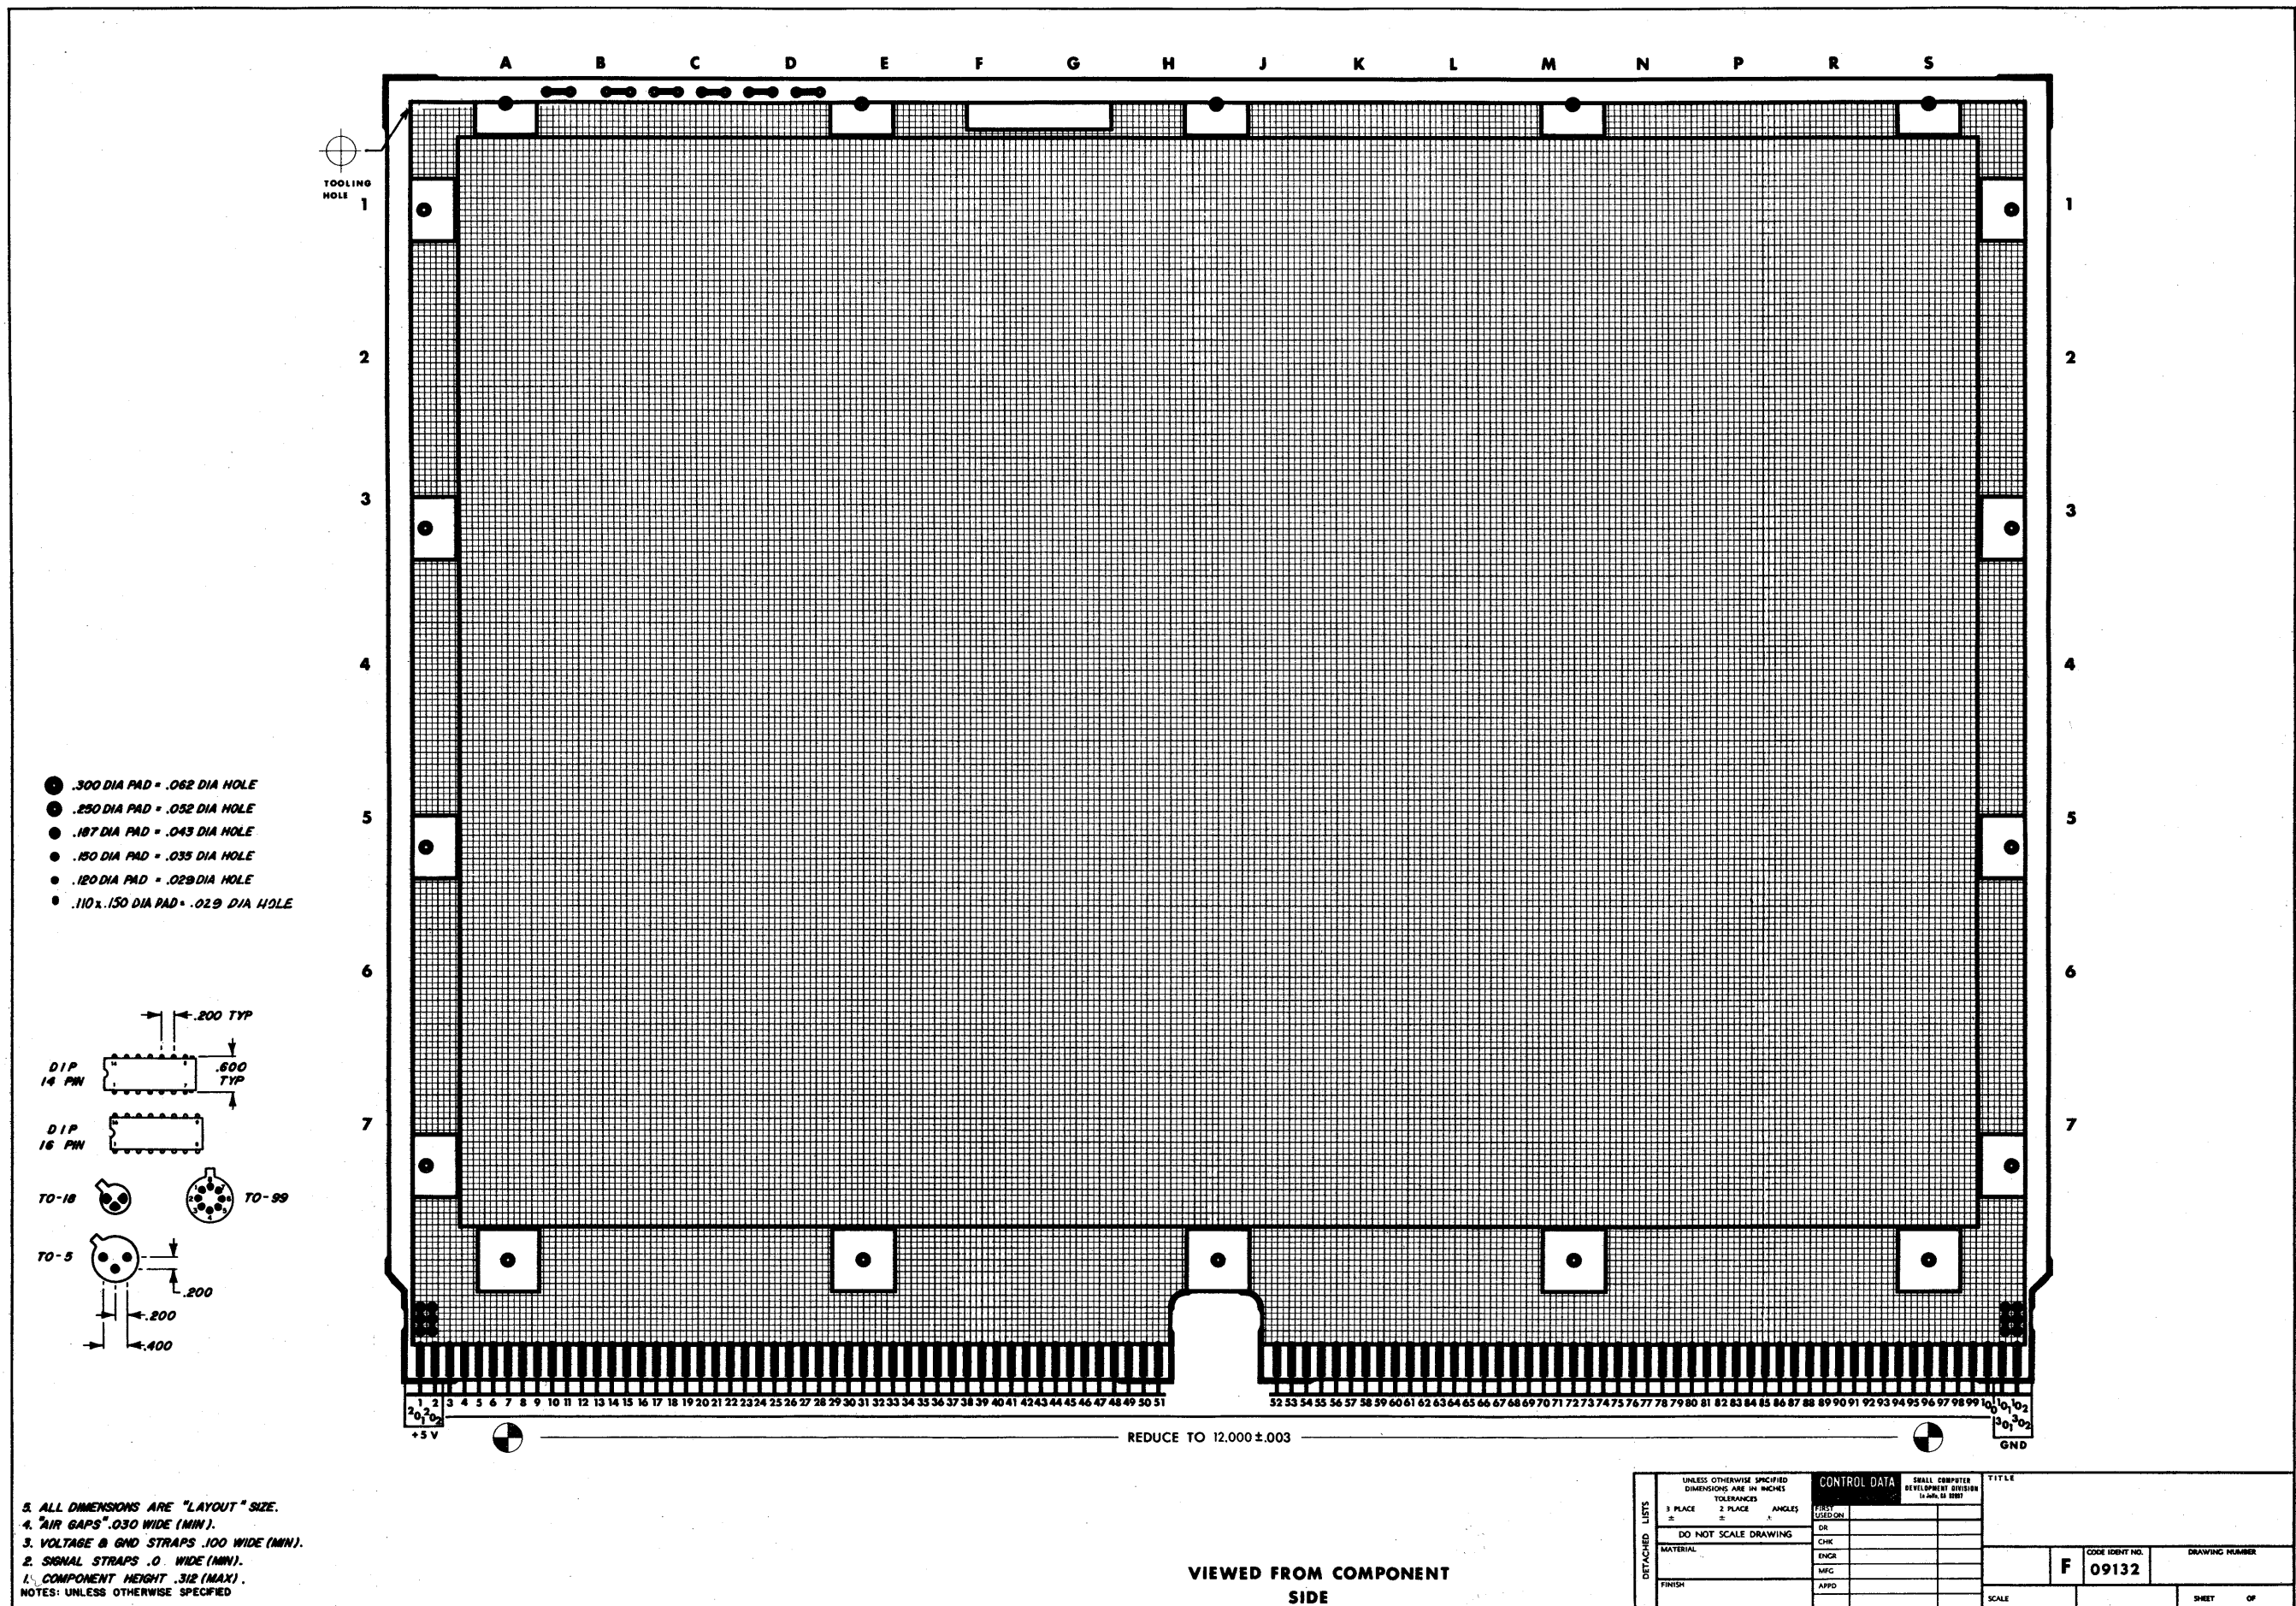

Figure 14. Precision Grid Master
- Transistor pads are the "teardrop" type shown in Figure 14.
- A precision grid master (see Figure 14) and a blank mylar are used for creating a planner or logic layout.